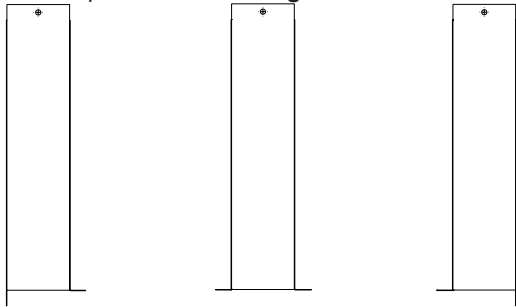

Figure 3
3. The brackets have a perforation located on each end. Bend them at the perforation. See **Figure 3**.